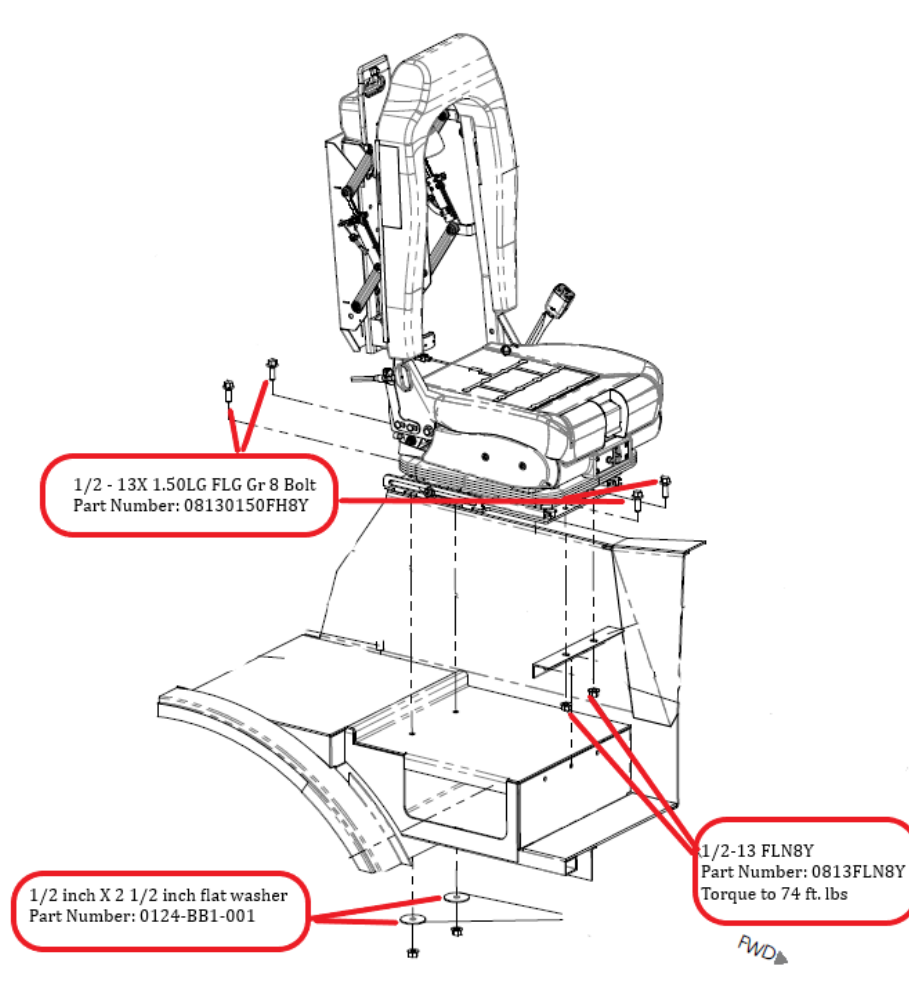

Figure 4.1
- 1) Locate officer seat mounting bolts. *See Figure 4.1*
- 4) If bolts are 3/8 inch, replace with 1/2 inch hardware as shown in figure 4.1.